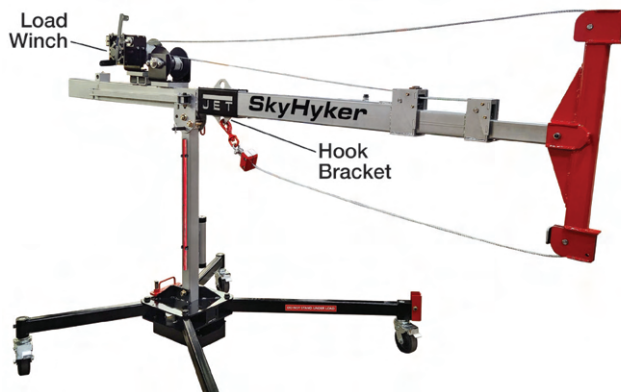

Figure 7-29: Securing Load Cable Hook on Hook Bracket
4. Place the load cable hook securely into the hook bracket as shown in Figure 7-29. Tighten the load winch cable to remove slack.